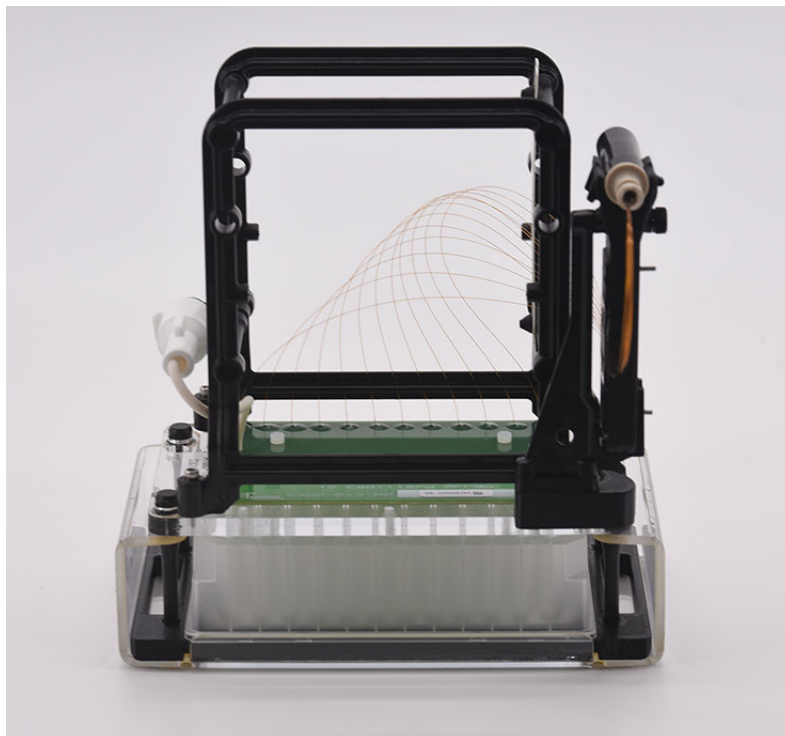

Figure 113 Array docking station with capillary array installed
- 5 Insert a white screw on each end as shown in **Figure 113** to fasten the capillary array into place.